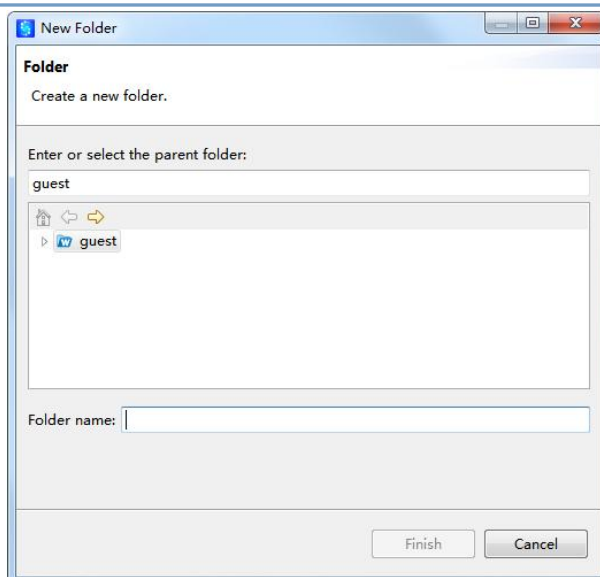

Figure 1.65 Create a new research team dialog on the user node
① New Research Team: Create a directory for new team (Figure 1.65). The default directory is under the current user node. Fill in the name of your team, then click **Finish** to close the window.